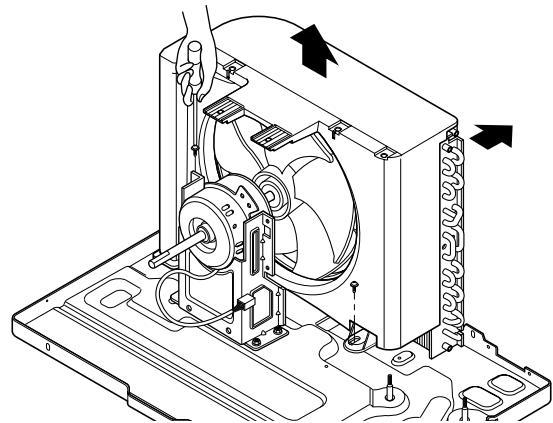

Figure 15
6. Re-install the components by referring to the notes – on pages 11-13. (See Fig. 15)